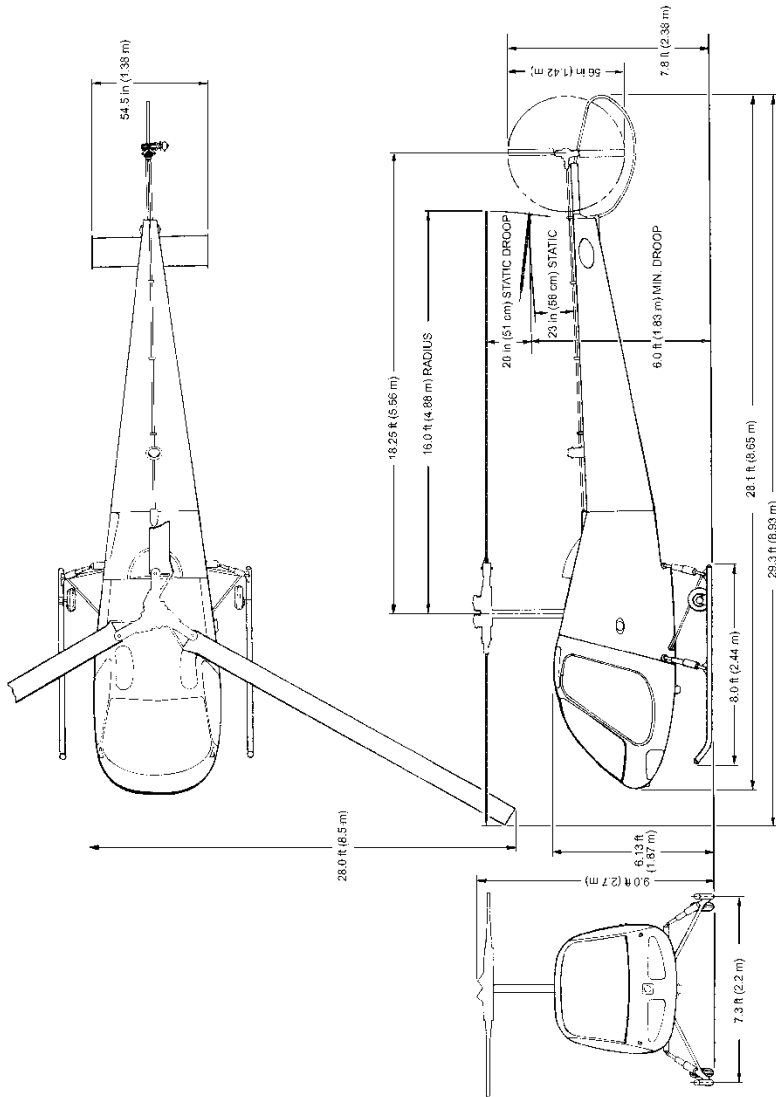
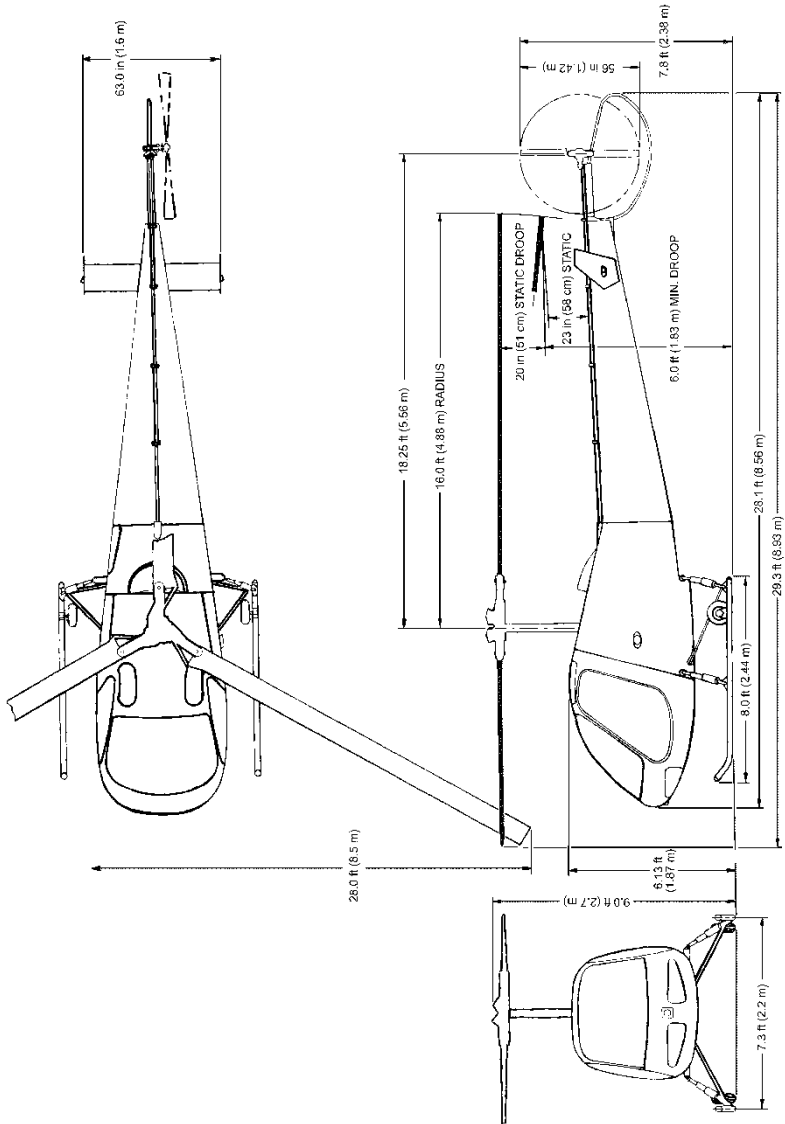

Figure 1-1. Enstrom F-28F – S/N 743 and Prior
Figure 1-2. Enstrom F-28F – S/N 744 and Subsequent
1. Principle dimensions of F-28F helicopters (reference Figure 1-1 and Figure 1-2).